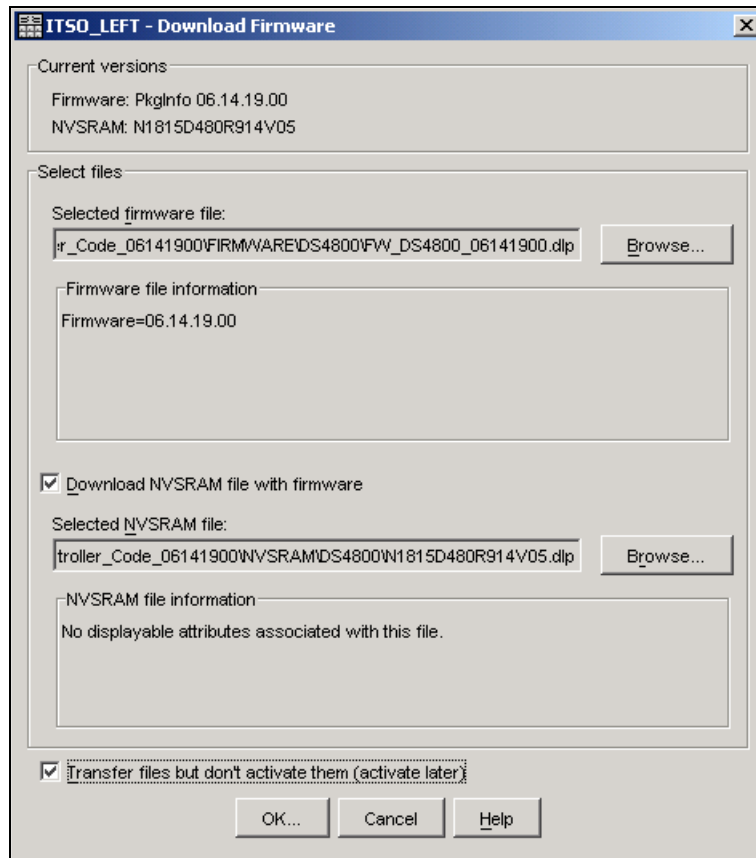

Figure 3-45 Download Firmware window
2. The Download Firmware window opens, showing the current firmware and NVSRAM versions. Select the correct firmware and NVSRAM files, as shown in Figure 3-45. Do not forget to mark the check box to download the NVSRAM file as well.